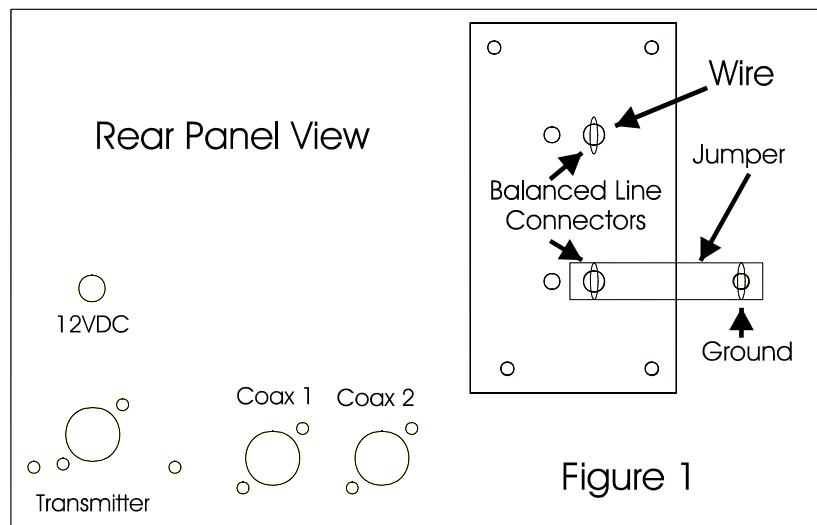

Figure 1
- A. **Coaxial feedlines** attach to the connectors labeled **COAX 1** and **COAX 2** on the rear panel of the tuner. The **ANTENNA SELECTOR** switch on the control panel allows the user to select a **DIRECT** (bypasses the matching circuit) or a **TUNED** (includes the matching circuit) transmitter to antenna connection. The **jumper** must be placed from the ground terminal to the bottom balanced line connector as shown in figure 1 above.
- B. **Random wire** or single wire line antennas should be attached using the terminal marked **WIRE** on the rear panel of the tuner. The **jumper** must be placed from the ground terminal to the bottom balanced line connector as shown in figure 1 above.